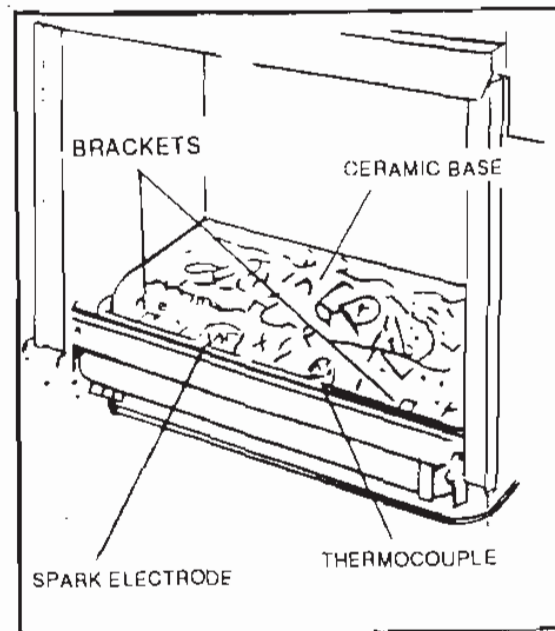

FIG. 5B
- (i) Place the ceramic base centrally on the firebox so that the electrode and thermocouple probes line up with their cut-outs ensuring that the base is retained by the brackets on the firebox base (Fig. 5B).